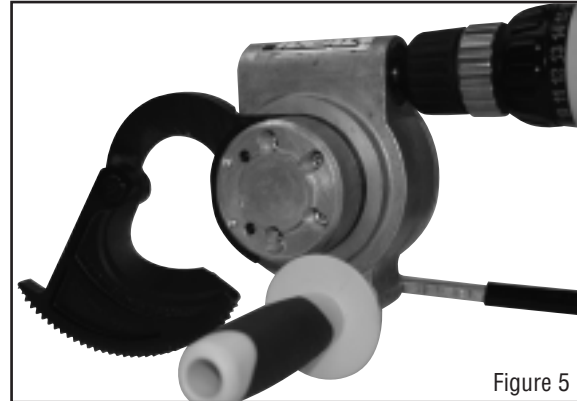

Figure 5
**STEP 5:** Place the cable to be cut onto the stationary blade and close the moving blade around the cable. Feed the moving blade by hand until the first gear teeth are engaged (Figure 5 and 6).